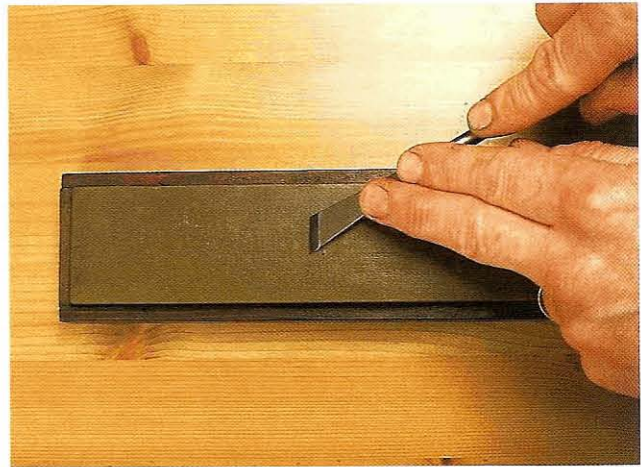

Fig 12.29 When the cutting edge of the skew is moved across the stone, the handle must be angled over the side (for clarity the oil is not shown)
- ④ The skew is offered to the benchstones so that the edge orientates in the same way as the edge of a firmer chisel – across the width of the benchstone. The handle angles out over the side of the stone, to one side for one bevel, the opposite side for the other (Fig 12.29).
- ⑤ Hone the skew in the same way as a firmer chisel: two fingers exerting gentle pressure on the blade, and working on both sides uniformly. Keep an eye on the white line and avoid over-sharpening the long point – so removing the most important part of the tool. Test the white line in scrap wood.
- ⑥ Strop by holding and moving the skew as if it were a firmer chisel – but at an angle, as before – and carefully wipe the blade. Test the edge by slicing across the grain of a piece of softwood.